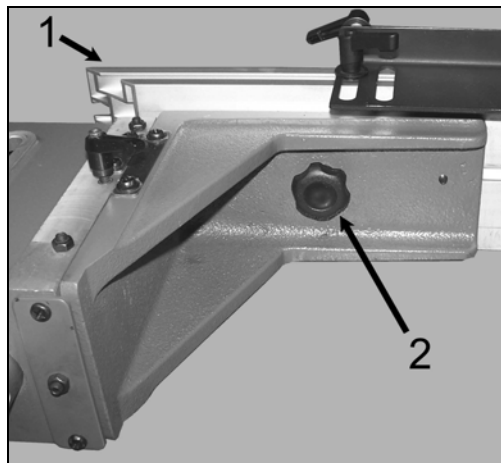

Figure 3
4. Both the left and right aluminum guides (1, Figure 3) can also be positioned by loosening the lock bolt (2, Figure 3) and sliding the guide to the desired location.